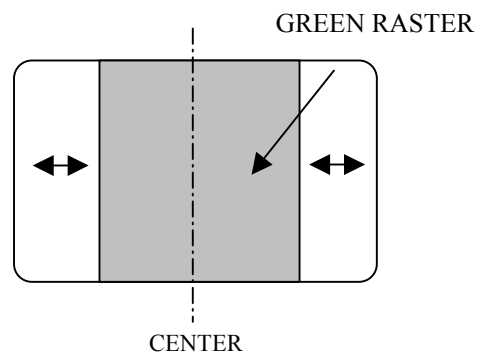

Fig. 3
7. Adjust the gap between two lugs so that the GREEN RASTER will come into the centre of the screen. (Fig. 3)
2. Move the deflection yoke left to right and overlap lines in the periphery. (Fig. 3)